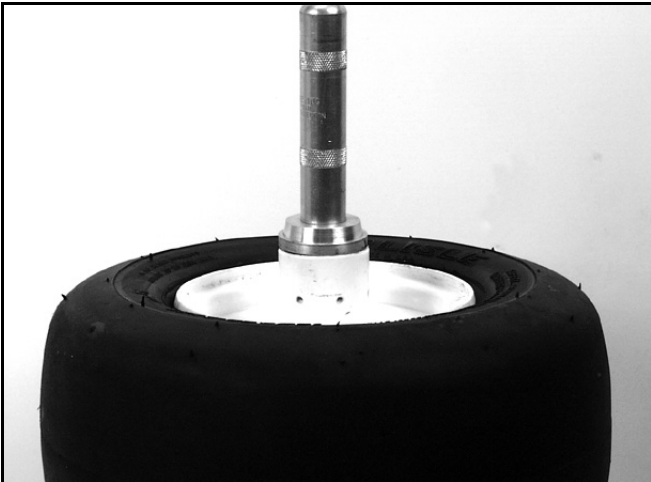

Figure 106
11. Press a new bearing seal into the hub (Figure 106).